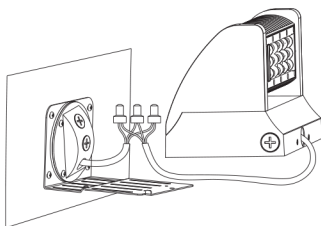

Figure 3-5
5. make wiring connection and go through isolation treatment. (Figure 3-5)